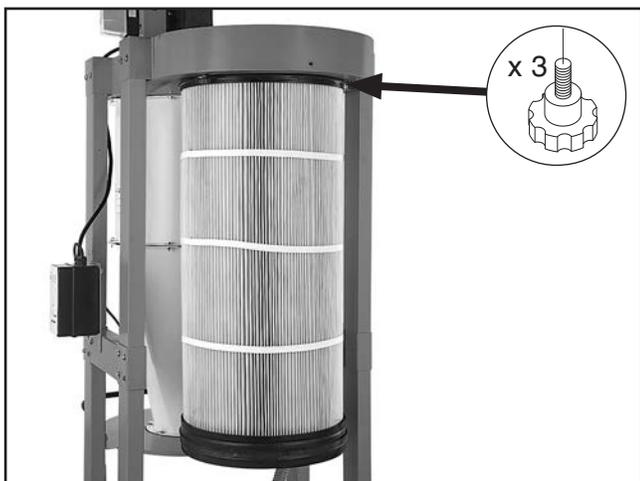

Figure 80. Canister filter fasteners.
5. Loosen (3) $\frac{5}{16}$ "-18 x 1" knurled knob bolts that secure canister filter to impeller housing (see **Figure 80**).